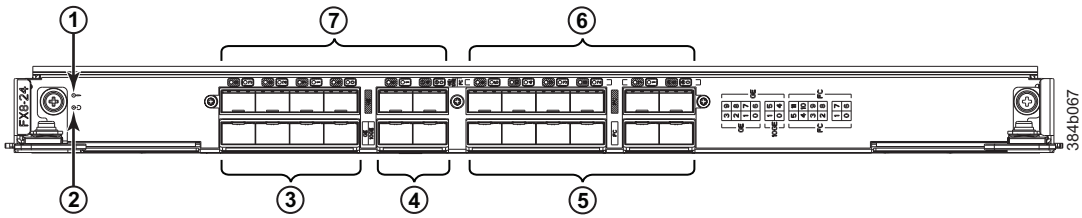

Figure 64. FX8-24 extension blade
- Figure 64 on page 164 shows an FX8-24 extension blade